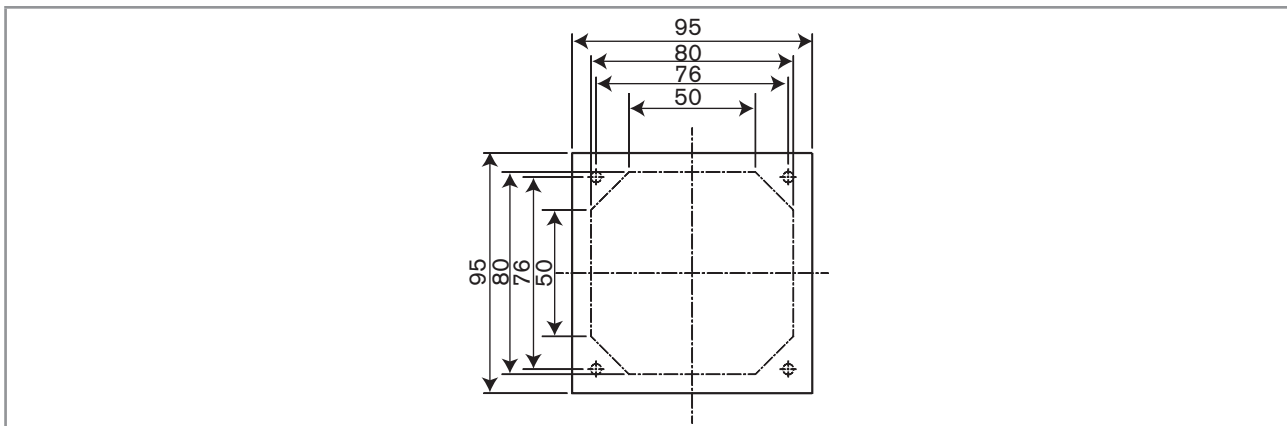

Fig. 16 : Dimensions [mm] of the electrical cabinet frontage cutting plan
- Respect the dimensions indicated in Fig. 16 to cut the opening in the cabinet door.